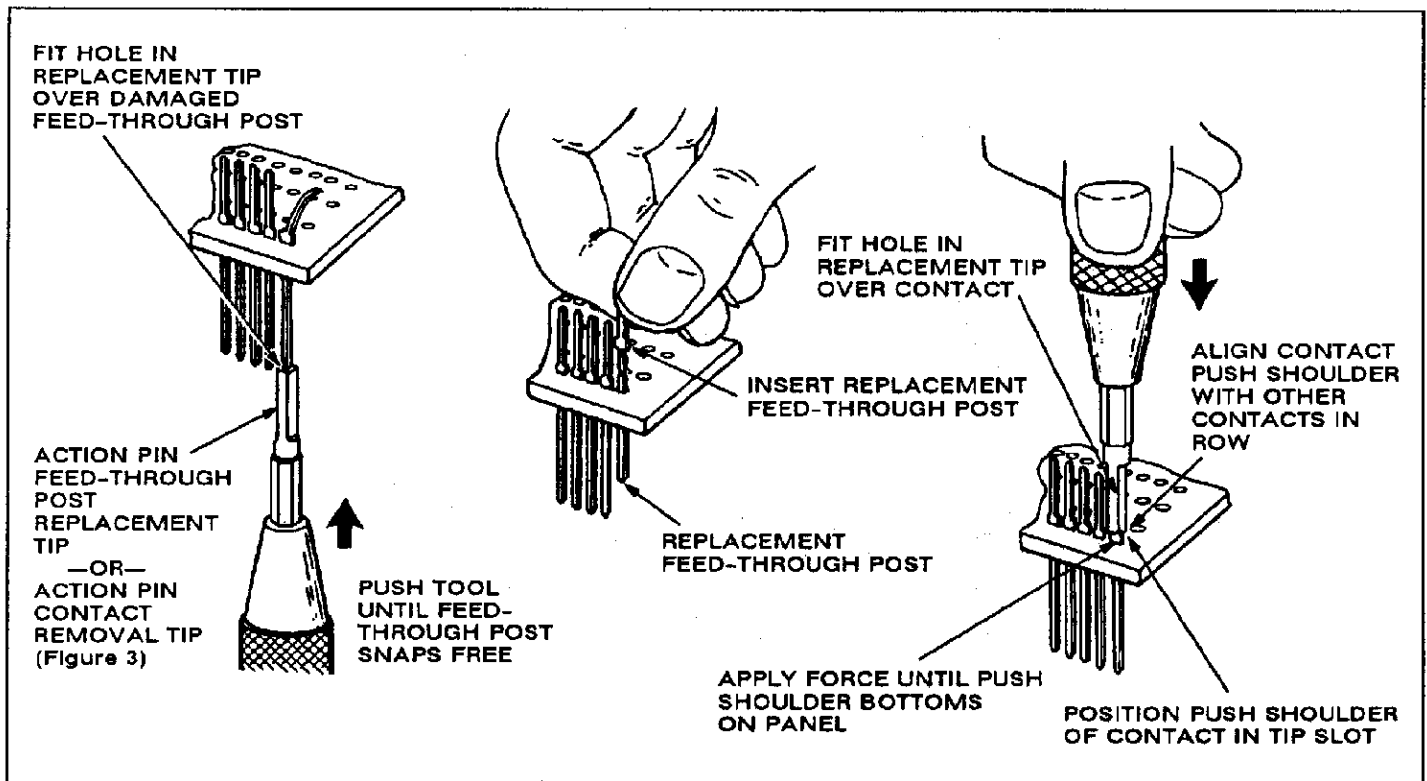

Fig. 7
**6. FEED-THROUGH POST REPLACEMENT (Figure 7)**